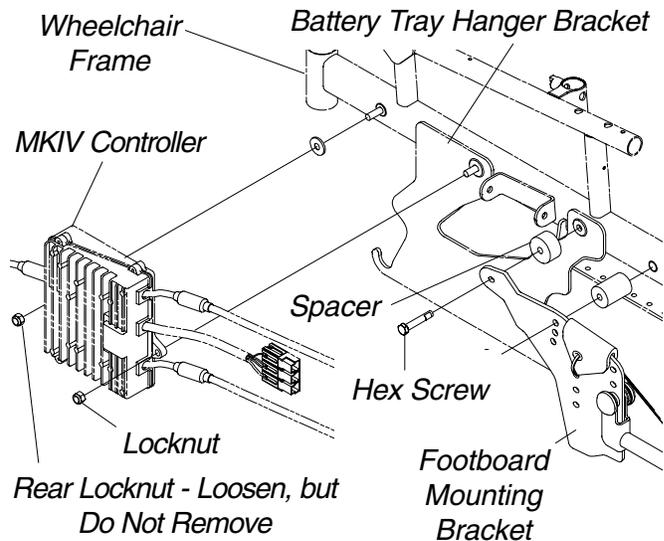

FIGURE 25 - BATTERY TRAY - REPLACING LEFT BATTERY TRAY HANGER BRACKET
**Replacing Left Battery Tray Hanger Bracket (FIGURE 25)**
3. Perform one (1) of the following:
7. Perform one (1) of the following: